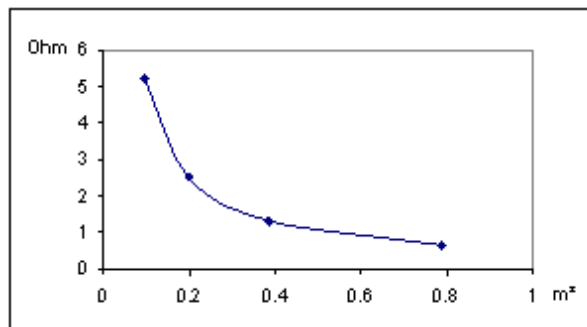

Fig. 2 Resistance as a function of the cross sectional area
- Plot the graph of the resistance vs. cross sectional area (refer to fig. 2).